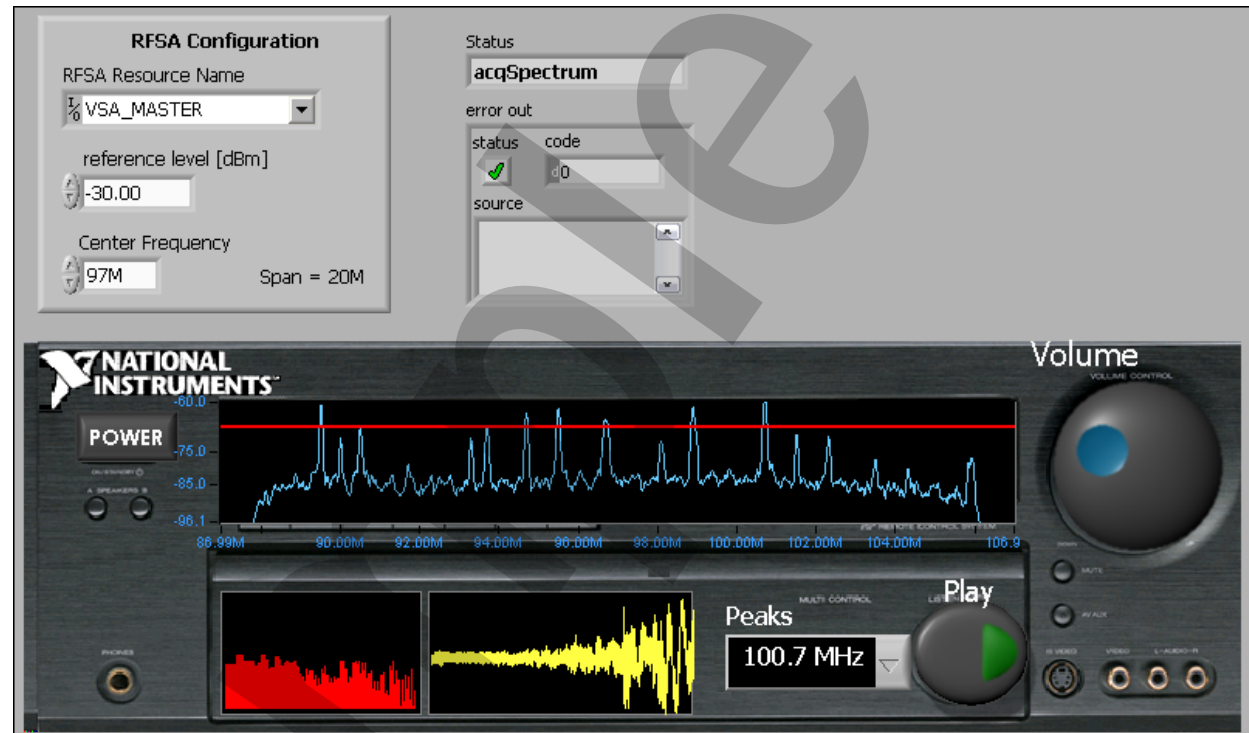

Figure 8-3. FM Radio Receiver Front Panel
- Run the VI. You should see the FM spectrum replicated back and see something similar to Figure 8-3.